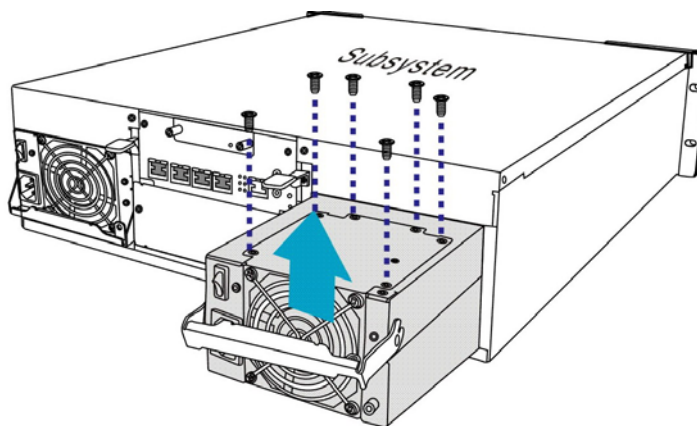

Figure 5-12: Removing a Cooling Module
Step 2. **Use a medium-size Phillips screwdriver to remove the six screws from the top of the PSU module.** (See *Figure 5-12: Removing a Cooling Module*)